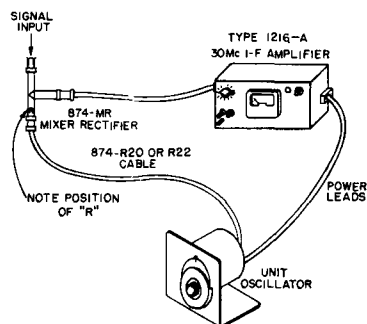

Figure 5. Setup of Unit Oscillator and Mixer Rectifier for Use as Frequency Converter.
3.4 UNIT OSCILLATOR AS A FREQUENCY CONVERTER. Connected to a Type 874-MR Mixer Rectifier, the Unit Oscillator can provide the local signal in a heterodyne converter to adapt the Type 1216-A Unit I-F Amplifier for use as a sensitive detector for v-h-f and u-h-f signals. (See Figure 5.) Without additional tuning, the conversion loss is about 6 db at an intermediate frequency of 30 Mc. The Type 1216-A I-F Amplifier has a built-in precision attenuator and a panel meter. Its bandwidth is 0.7 Mc and it has excellent sensitivity. Provision is made for the measurement of the rectified mixer current in the i-f amplifier, and a separate built-in power supply is available for operating the Unit Oscillator.